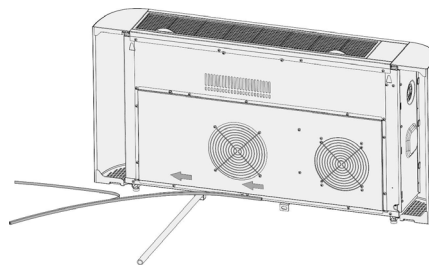

Figure 9
1. Gradually peel off the backing layer from the Sealing Strip while applying it along the entire perimeter back of the heat pump. Starting on the bottom of the unit in one continuous strip as shown in Figure 9.